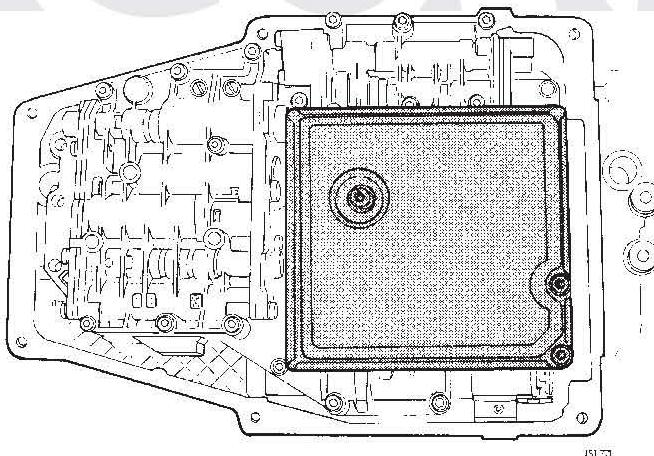

FIG 5
8. Locate the new 'O'-ring seal into the valve block. Align and secure the replacement oil filter to the valve block with the retaining screws to a torque of 8 Nm (Fig 5).